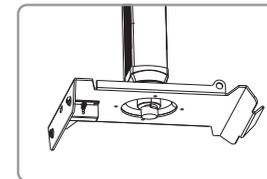

Figure 4
- Press the release button for separating the top bracket⑦ and low bracket⑧ , refer to figure 3 and figure 4. Then, adjust the half-cycle junction⑤ and ensure that the groove of half-cycle junction to be align the direction of security lock⑨ , and then put it on the subsidiary bar after assembling. Finally, the glider is installed on the half-cycle junction for fastening the main bar⑥ as the figure.